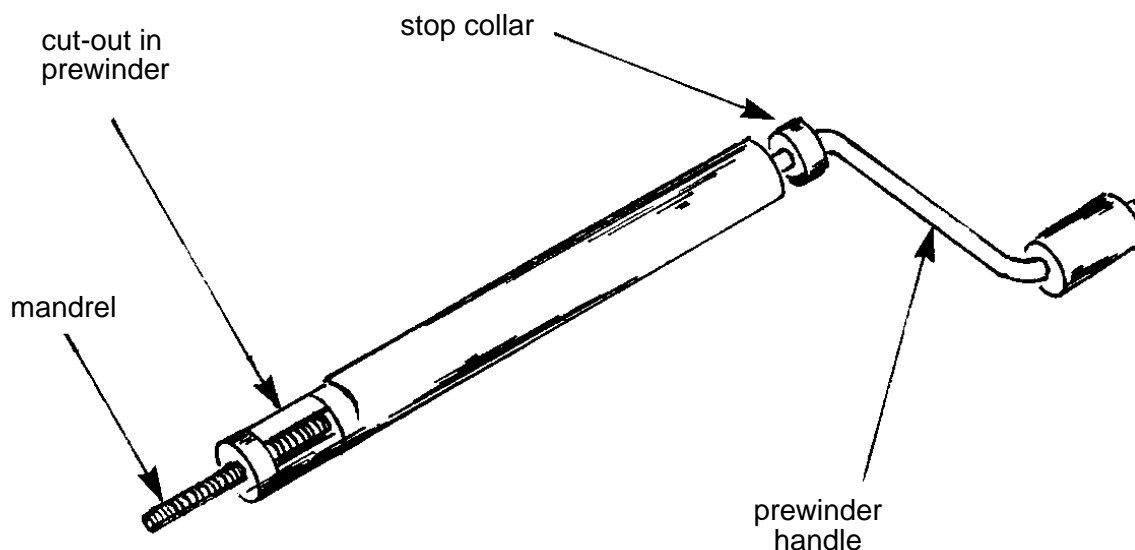

Figure 5 - 7551 & 7552 Series Insertion Tools
5.5.2 install inserts using 7551 and 7552 series hand tools (see Figure 5) as follows: